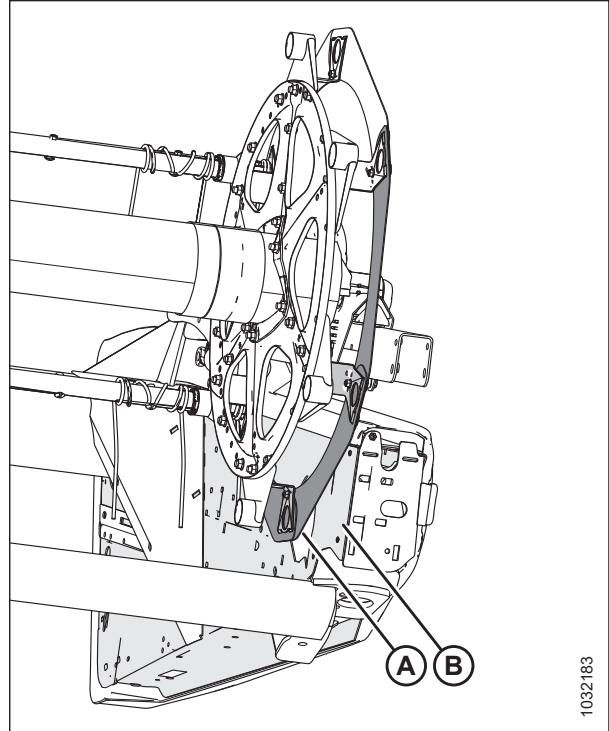

Figure 5.21: Reel Endshield and Header Endsheet
3. Measure clearance at locations (A) between reel and both endsheets. The clearances should be the same if the reel is centered. To see locations (A) in greater detail, refer to Figure 5.21, page 138.